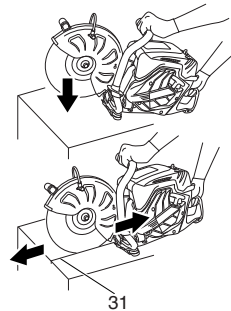

Fig. 29
2. Cut a straight shallow line (31) to the range to be cut. (Fig. 29)